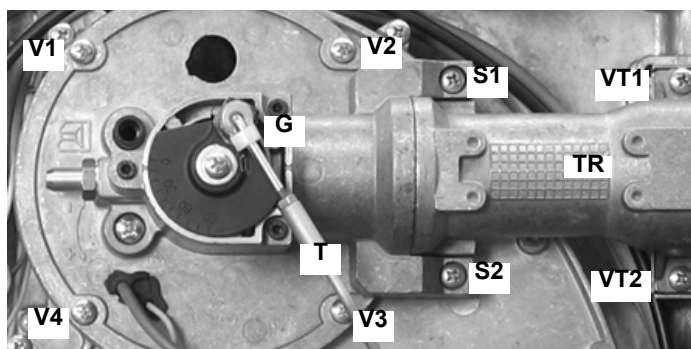

Fig. 13
- 1 Remove the plastic hook **G** to release the rod **T** (Fig. 13) .
- 2 Take the screws **V1**, **V2**, **V3**, **V4**, **VT1** and **VT2** off (Fig. 13).